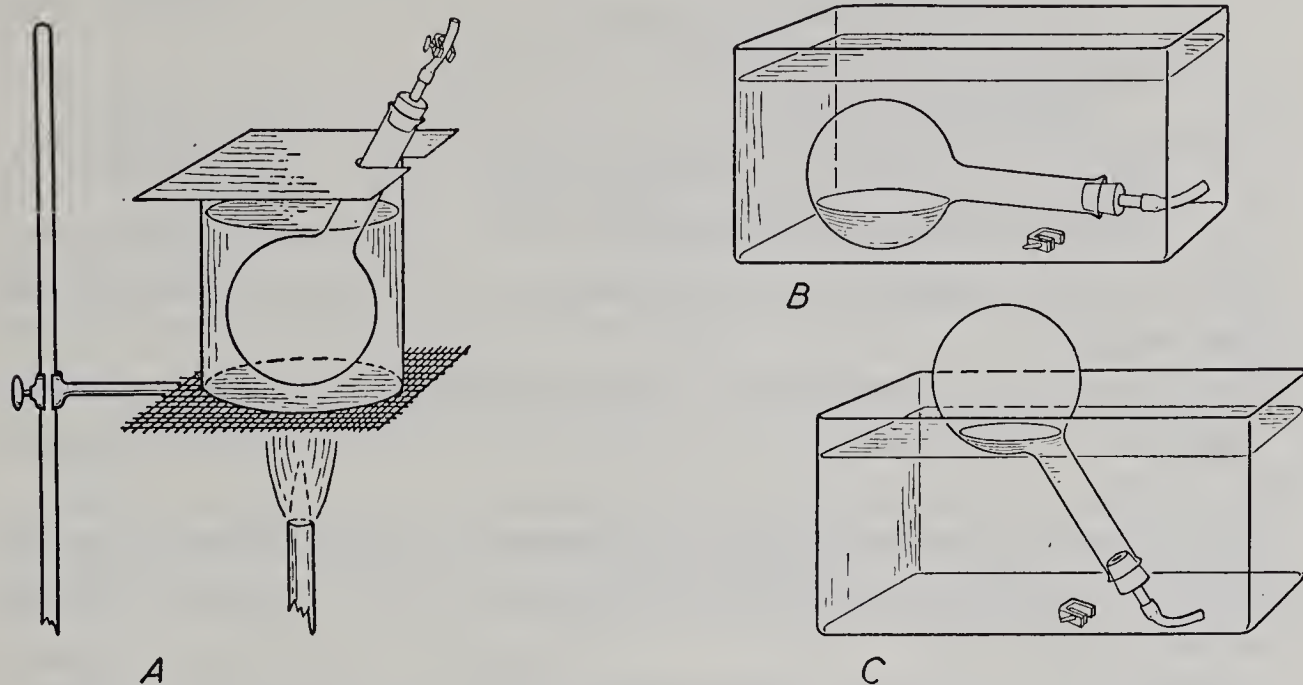

Fig. 44. Determining the coefficient of expansion (volumetric) of air at a particular temperature.
1. The apparatus (see Fig. 44) consists of a clean dry 100 ml. flask, a 200 ml. beaker, thermometer, retort stand, gauze, burner, one-hole stopper, short pieces of glass and rubber tubing, clamp, and a sheet-metal cover with a semi-circular hole of suitable size to accommodate the neck of the flask.